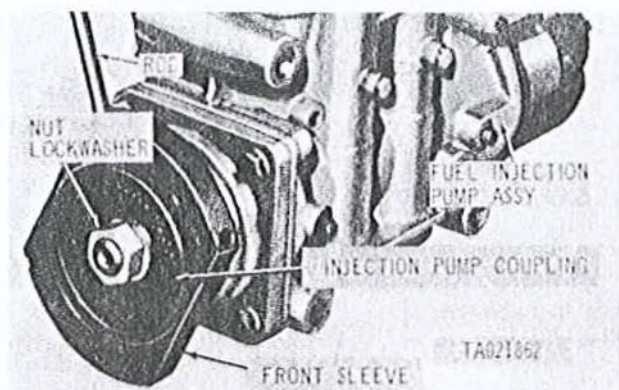

Figure 2-45. Removing or installing fuel injection pump coupling.
(17) Position a metal rod (fig. 2-45) in one of the sleeve alignment holes. Coupling sleeve must be in
coupling half on pump shaft and secure with lockwasher and plain nut (fig. 2-45). Position a metal rod in one of the sleeve alignment holes and torque tighten plain nut to 900 pound-inches. Install new preformed packing in groove in face of coupling sleeve. Use a light coating of grease to hold performed packing in position.